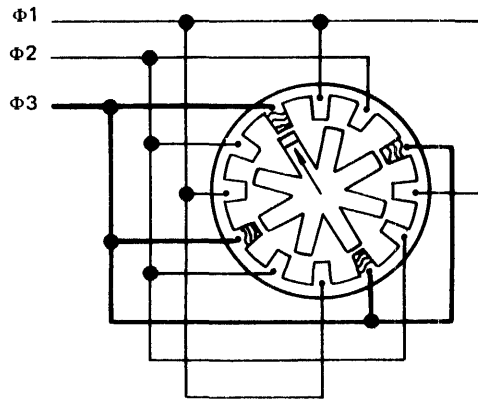

Figure 16 Position 3 (Trk 02)
3.2.4 Figure 16 shows the stepper motor with phase 3 of the stepper control logic active. Result is another 15° turn of the stepper motor lead screw.